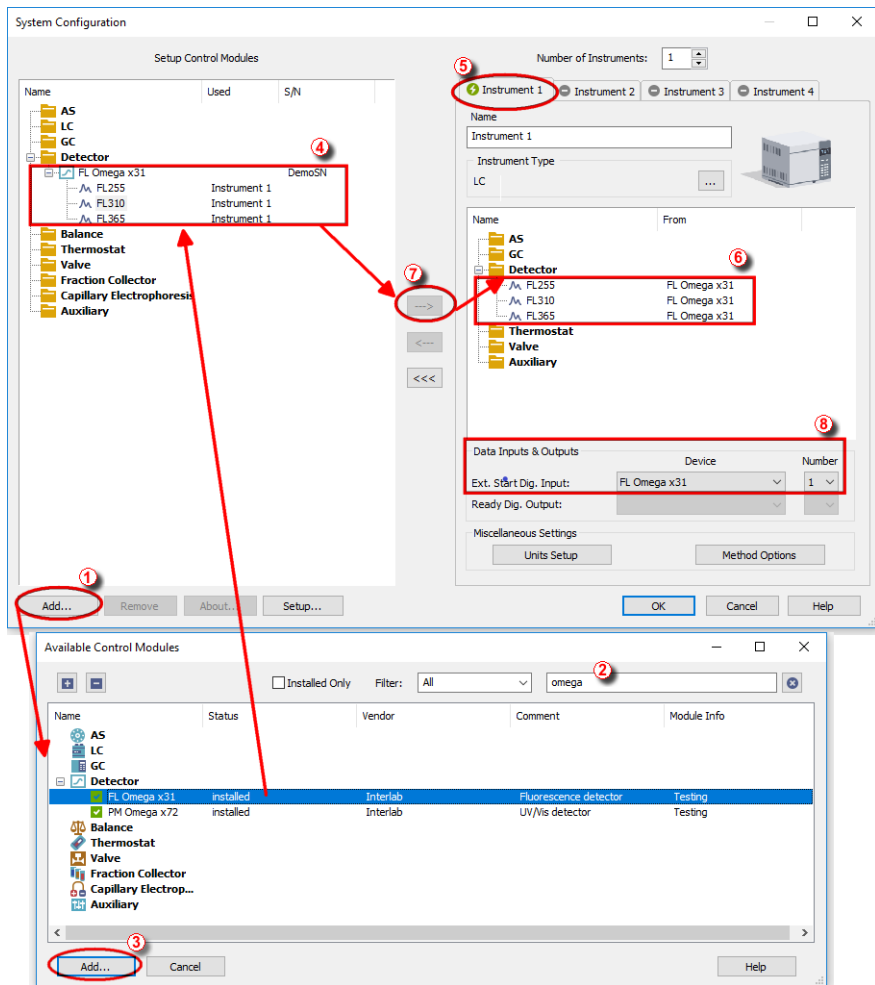

Fig 4: System Configuration - FLD Detector
- Press the *Add* button ① (see **Fig 4** on pg 7.) to invoke the **Available Control Modules** dialog.
- You can specify the searching filter ② to simplify the finding of the driver.
- Select the **FL Omega x31** and press the *Add* ③ button.